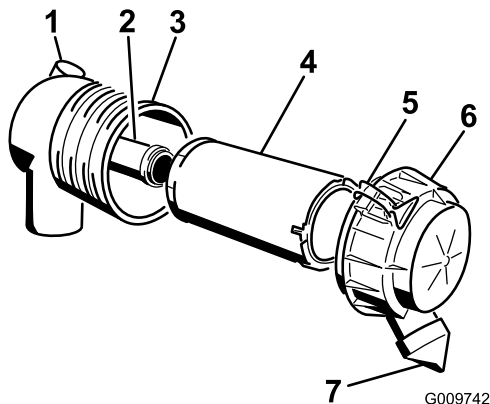

Figure 37
1. Gently slide the primary filter out of the air-cleaner body (Figure 37).
4. If you are replacing the safety filter, carefully slide the new filter into the filter body (Figure 37).
6. Install the air-cleaner cover with the side indicated as "UP" facing upward and secure the latches (Figure 37).